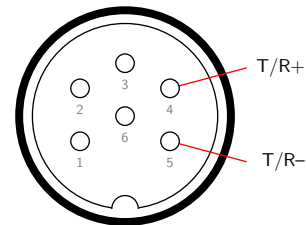

Figure 2.2: DIN-6 male connector (solder side).
1. Solder the pins of a male DIN-6 connector as shown in Figure 2.2. Note that the pin numbers shown in the diagram are for the solder side of the connector.